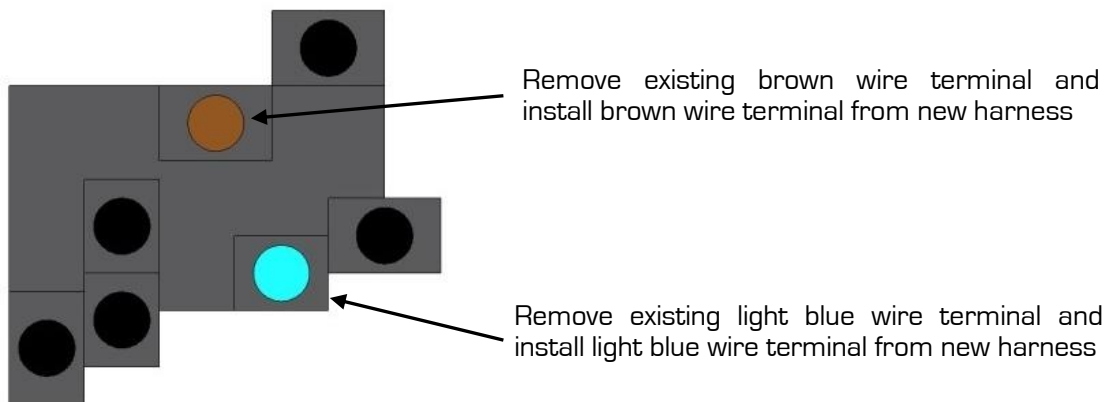

Figure 31 – End View (Harness Side)
30. The light blue wire is the 12 volt headlamp feed and the brown wire is the park lamp feed. There may be more than one brown wire in the connector so be sure to remove the correct one (Figure 31).